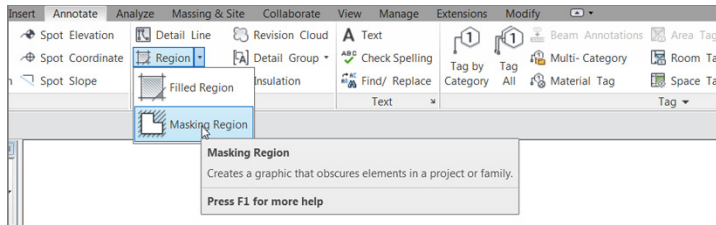

FIGURE 12.6: Region a Masking Region on the Annotate tab
2. On the Detail panel of the Annotate tab, click Region ➤ Masking Region, as shown in Figure 12.6.